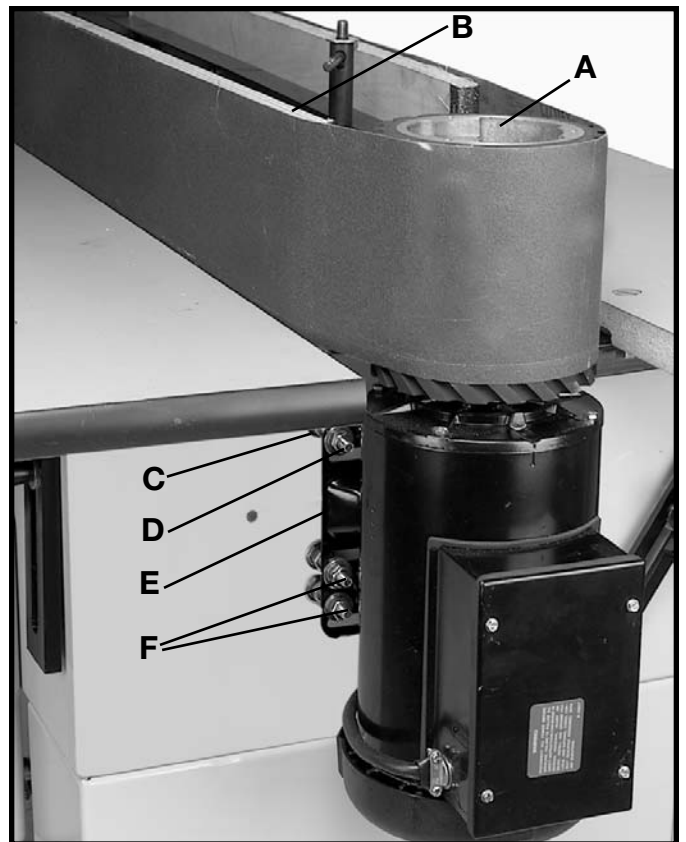

Fig. 35
The idler pulley and motor pulley have been aligned and test run at the factory. However, rough handling during shipment or drive pulley wear may cause the sanding belt to run high or low at either the motor or idler end of the machine. The top edge of the sanding belt (A) Fig. 35, must be parallel to the top of the straight platen (B). If it is not parallel, adjust as follows:
2. **NOTE:** If the sanding belt (A) Fig. 35, is running **LOW** on the motor pulley, this means the top of the motor is too far away from the machine. The top of the motor must be moved toward the machine by loosening the two top **INSIDE** nuts, one of which is shown at (C), 1/2 turn and then tighten the two top outside nuts (D).
3. **NOTE:** If the sanding belt (A) Fig. 35, is running **HIGH** on the motor pulley, this means the top of the motor is too close to the machine. The top of the motor must be moved away from the machine by loosening the two top **OUTSIDE** nuts, one of which is shown at (D), 1/2 turn and then tighten the two top inside nuts (C).
4. Apply power to the machine. Jog the on/off switch several times and check to see if the top edge of the sanding belt (A) Fig. 35, is running parallel to the top of the straight platen (B). If further adjustment is necessary, repeat the procedure.
CAUTION: DO NOT BEND THE MOTOR MOUNTING PLATE (E) FIG. 35, WHEN MAKING THESE ADJUSTMENTS. If the motor misalignment is excessive, it may become necessary to move the bottom of the motor by adjusting the lower motor mounting nuts (F), in or out, in the same manner.